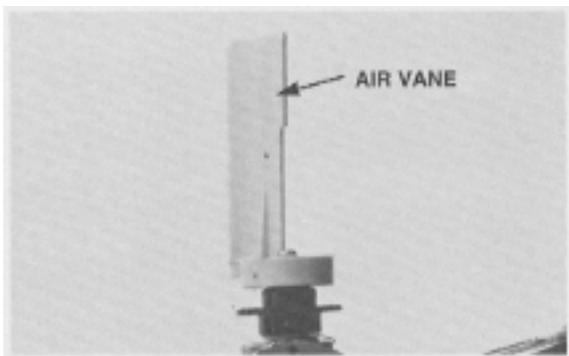

Figure 25
12. Install the air vane and screw (**Figure 25**).